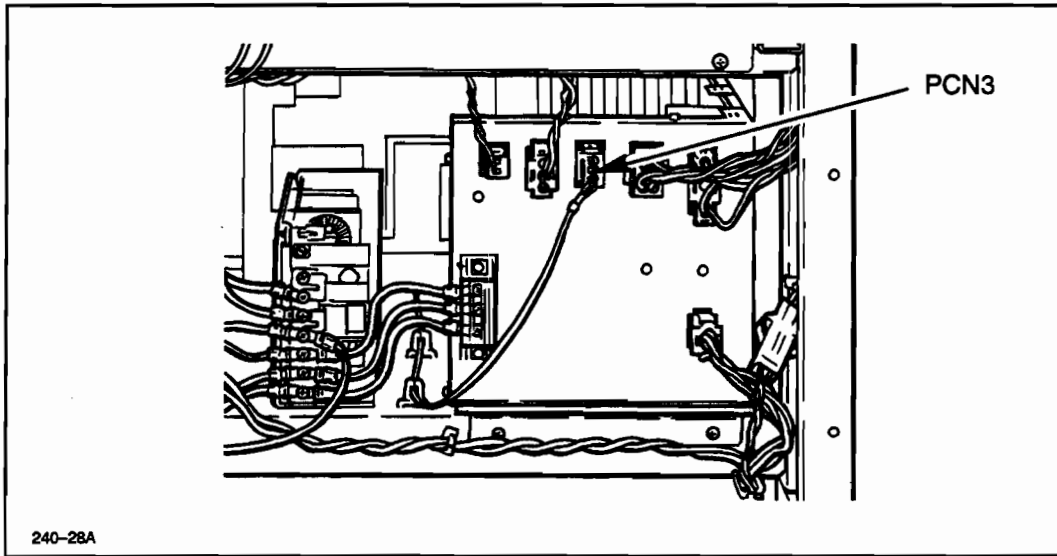

Figure 6-44. PCN3 Location
6. Disconnect the contrast control wires at PCN3 on the high voltage power supply. See Figure 6-44.